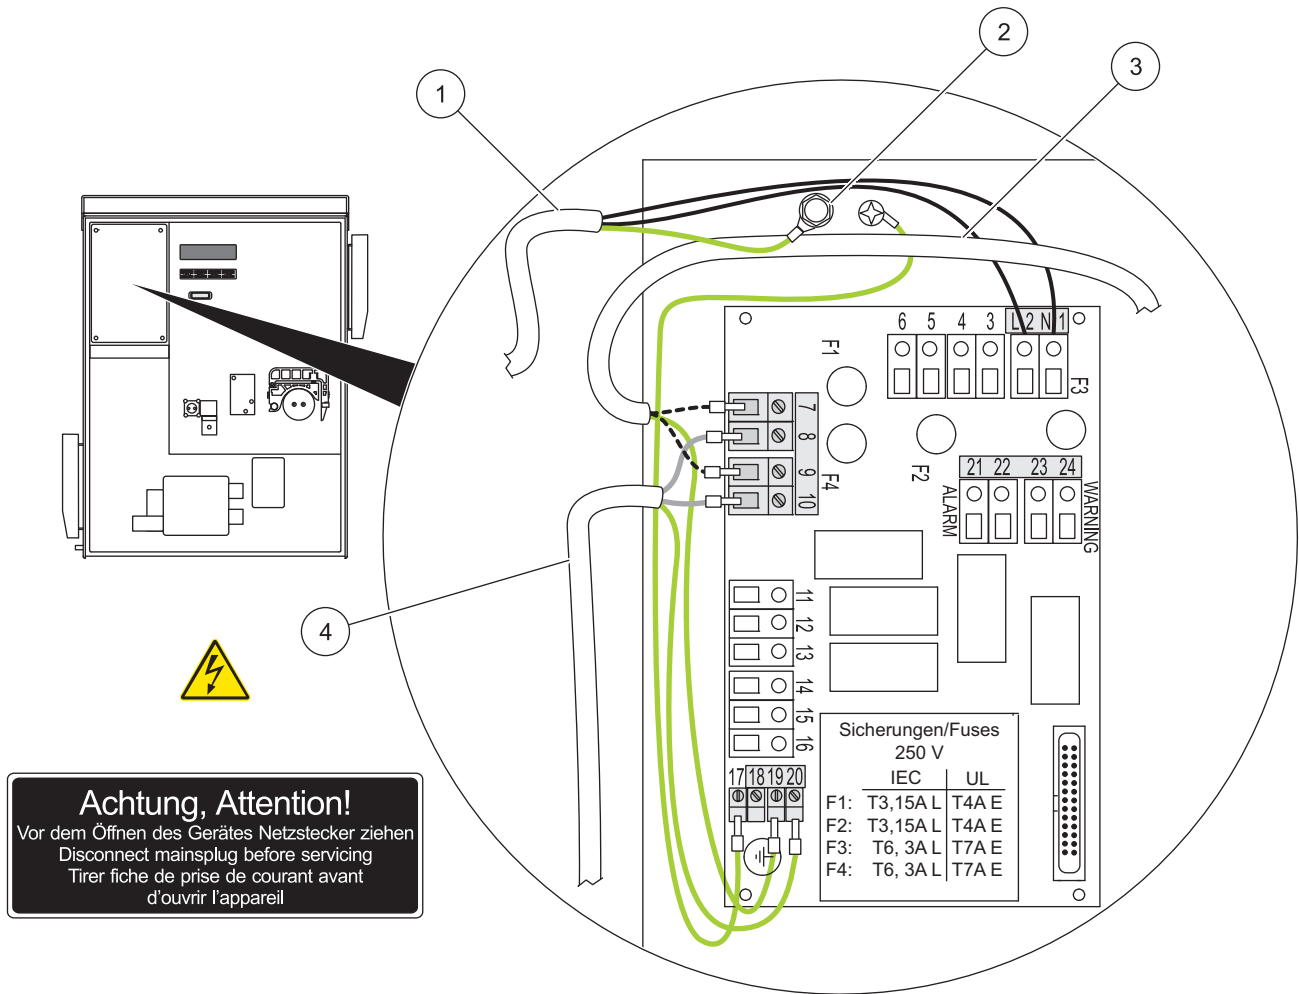

Figure 16 Terminal assignment
3. Remove the 4 cross-head screws from the cover (refer to Figure 16 Terminal assignment) and remove the cover.